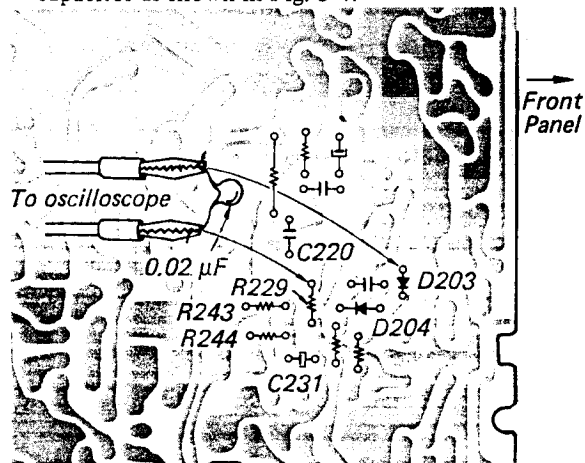

Fig. 3-3. Fm discriminator output connection
1. Connect the input cable of the oscilloscope with alligator clips to R229 and ground on the fm (a-m) front-end/i-f amp/MPX and preamplifier board, and solder a 0.02  $\mu$ F capacitor across these clips as shown in Fig. 3-3.